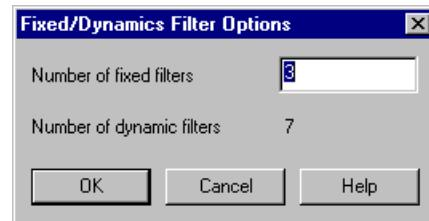

Figure 41 – Fixed/Dynamic Filter Options
2. The Fixed/Dynamic Filter Options dialog appears, as pictured to the right in figure 41.